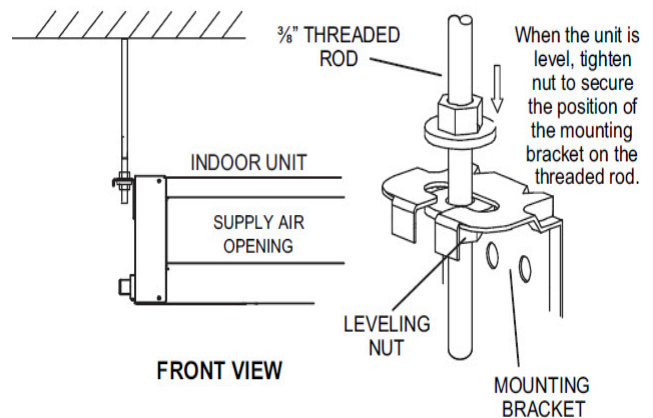

Fig. 14 — Threaded Rod
3. Secure the unit in position with locknuts and washers on both sides of the mounting bracket. Ensure that the threaded rod does not protrude more than 2 in. below the mounting brackets as shown in Fig. 14.